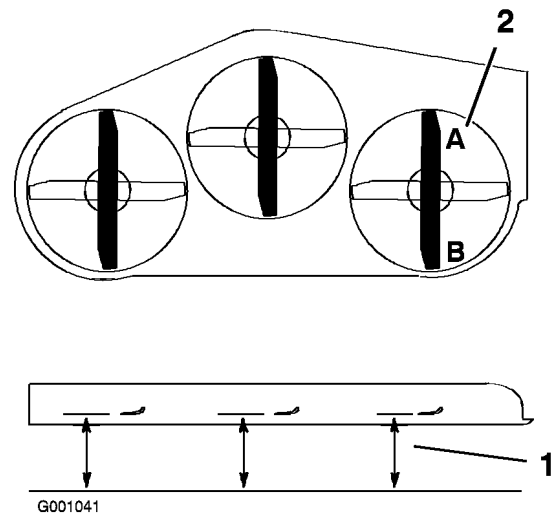

Figure 61
1. Position the right blade front-to-rear (Figure 61).
2. Measure the right blade at the **A** location, from a level surface to the cutting edge of the blade tip (Figure 61).
4. Measure the right blade at the **B** location, from a level surface to the cutting edge of the blade tip (Figure 61).
6. The mower blade should be a 1/4 to 3/8 inch (6 to 10 mm) lower at position **A** than at position **B** (Figure 61). If it is not correct, proceed to the following steps.